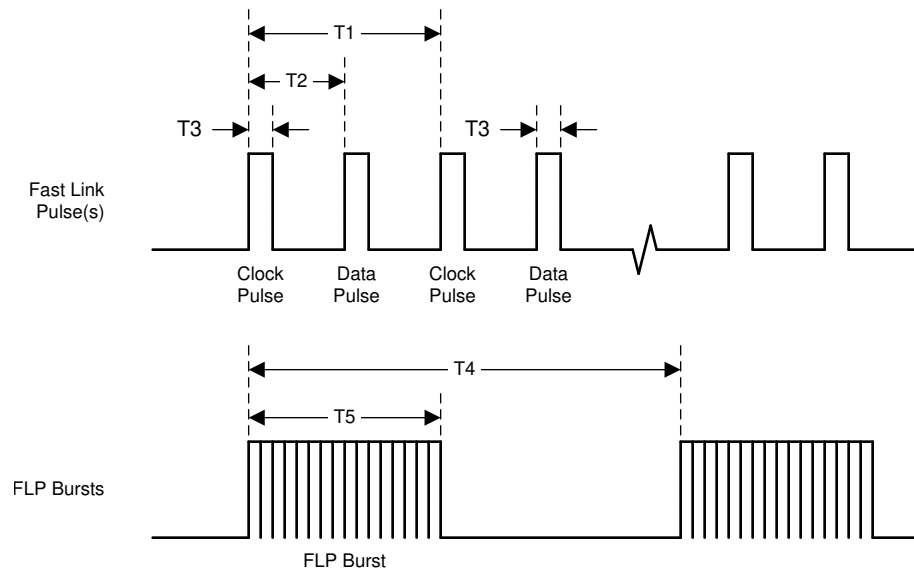

图 7-14. Fast Link Pulse Timing
- (1) Ensured by production test, characterization or design.
(2) See 图 7-14.